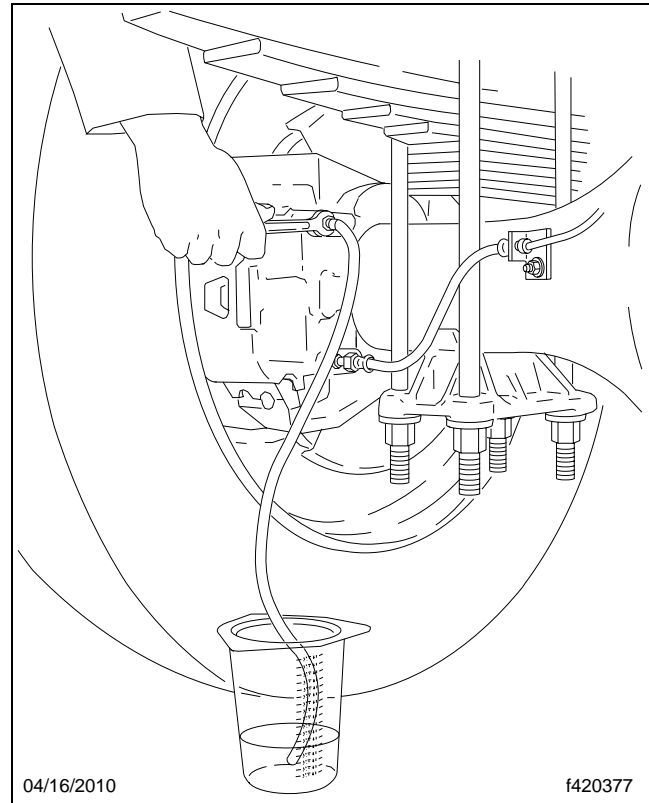

Fig. 14, Bleed the Hydraulic Connection
- 3.1 Put a wrench on the bleeder fitting at the caliper. Attach a length of clear tubing to the bleeder fitting. Make sure the tube fits snugly. Submerge the tubing in a container of clean brake fluid. See **Fig. 14**.
- 5.1 Put a wrench on the bleeder fitting at the caliper. Attach a length of clear tubing to the bleeder fitting. Make sure the tube fits snugly. Submerge the tubing in a container of clean brake fluid. See **Fig. 14**.